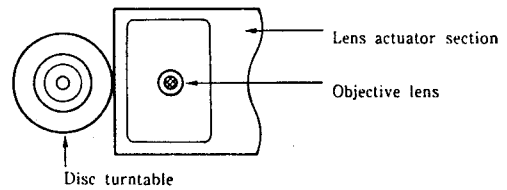

Fig. 11
**3. Inspection of the objective lens (Fig. 11)**